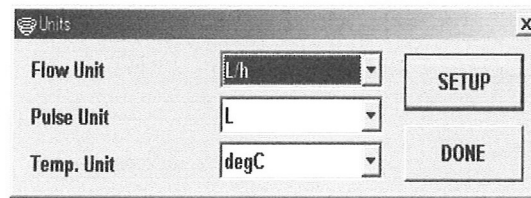

Fig.30
- ① Click on "Configure (M)" at top-level menu of the screen, select "Units (U)" and click on again.
- ② A message box for "Units" setup as shown in Fig. 30 appears.